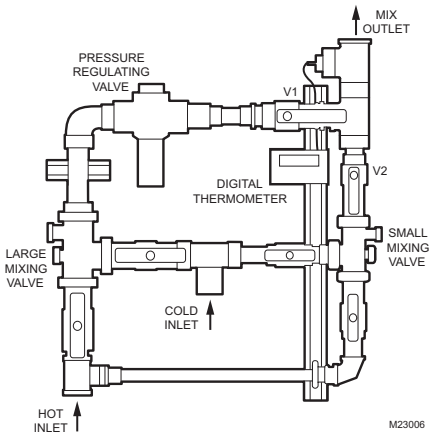

Fig. 3. High-Low Temperature Control System Setup
1. The Honeywell High-Low Temperature Control System must be installed per Fig. 3.